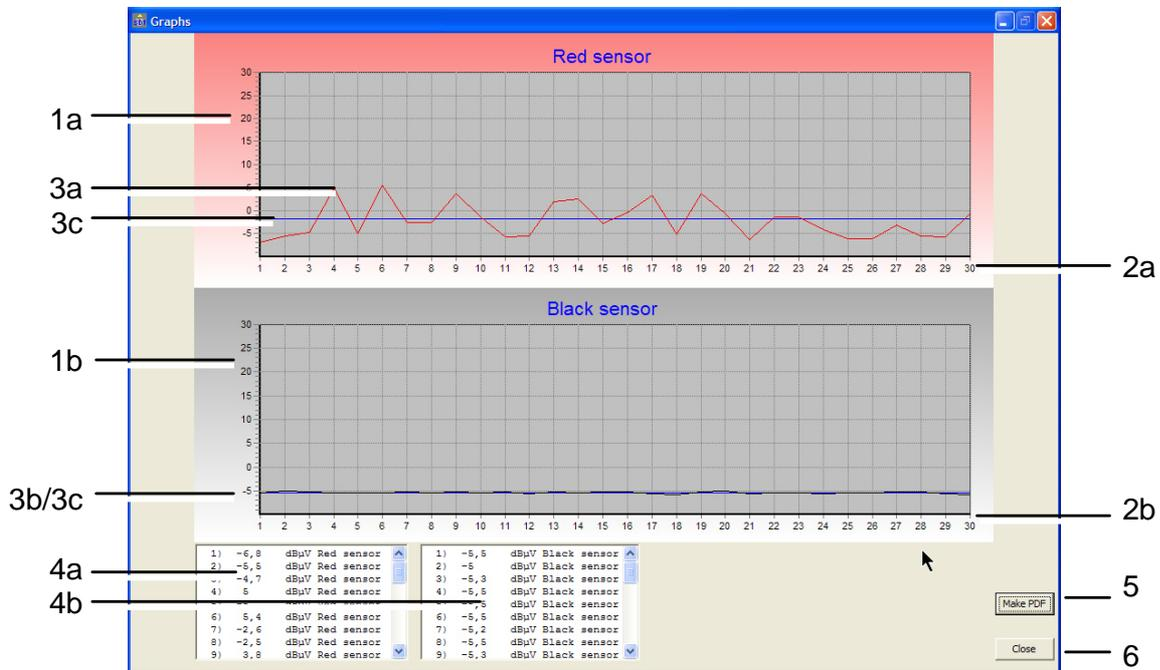

Figure 28: Example of data displayed in graph form.
Figure 28 displays an example of a graph. The references correspond to the explanatory notes provided.
This graph can be converted into *pdf* format for future consultation by free software *Acrobat Reader* simply by clicking on the *Make PDF* button (see Figure 28, ref. 5).